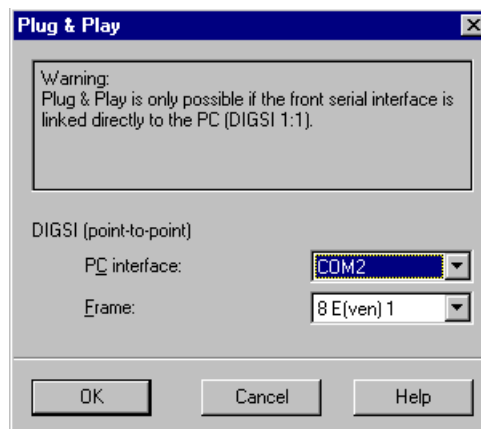

Figure 3-6 Plug & Play Dialog Box for Communication between Device and PC
- ❑ Select **Folder** by clicking on the item in the newly opened dialog field. Then click on **DIGSI > Device (Plug & Play)**. The **Plug & Play** dialog box opens, as shown in Figure 3-6.